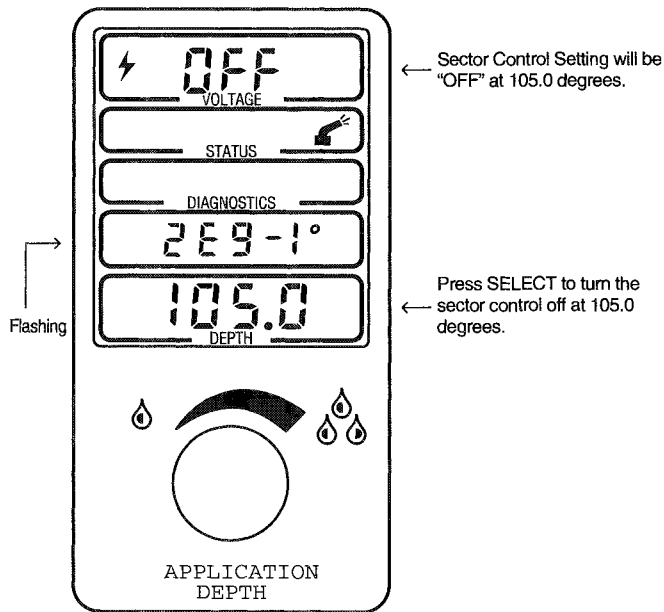

Figure 2.20
3. Turn the knob clockwise to set the "OFF" angle to 105 degrees. Notice that "OFF" is displayed in figure 2.20 the entire time the knob is being turned. This indicates that the sector control "OFF" value is being set.